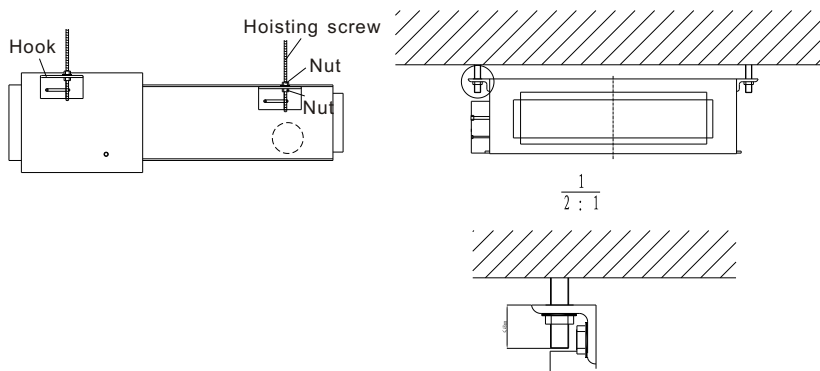

Fig 8
- Install the indoor unit on the ceiling (refer to Fig 8)